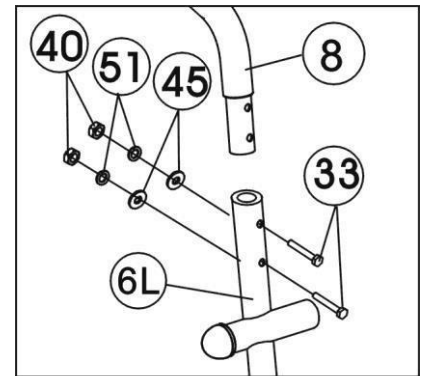

Figure 9
Insert the Left handlebar (8) to the Left Handlebar support (6L) with four sets of M8x40 Bolts (33), $\Phi 8$ Arc washers (45), $\Phi 8$ Spring washers (51), and M8 Cap nuts (40). Do the above same steps to assemble the Right handlebar (11) to the right Handlebar support (6R). (Refer figure 9)